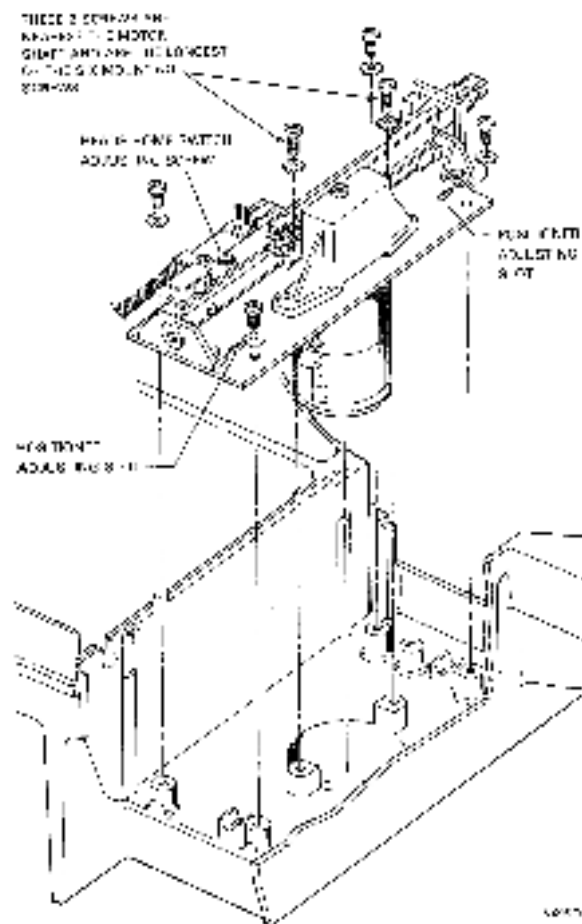

Figure 9-5 Positioner Assembly
1. Using Figure 9-5 as a guide, locate the six largest Phillips screws on the positioner base plate.